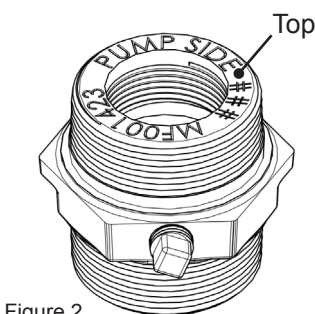

Figure 2
- 2) Examine the bung adapter to determine top and bottom for proper insertion of the suction pipe. The bung adapter is labeled to help: the end marked "PUMP SIDE" is the top of the bung adapter (Figure 2). Note that the internal threads for the suction pipe are at the **TOP** of the opening.